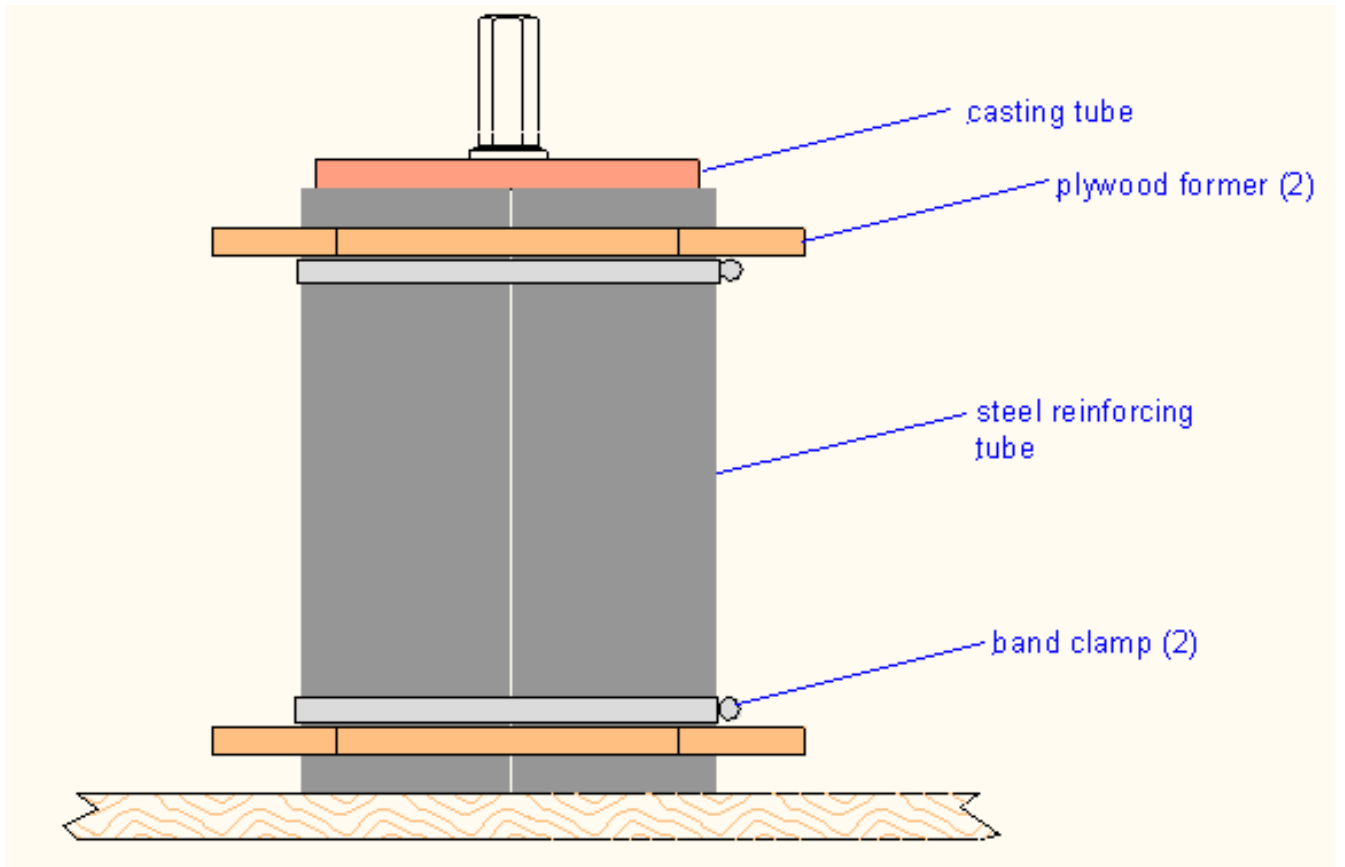

Figure 2 – Reinforcing tube setup
7. Set up the steel reinforcing tube for the casting tube as follows (reference Figure 2):